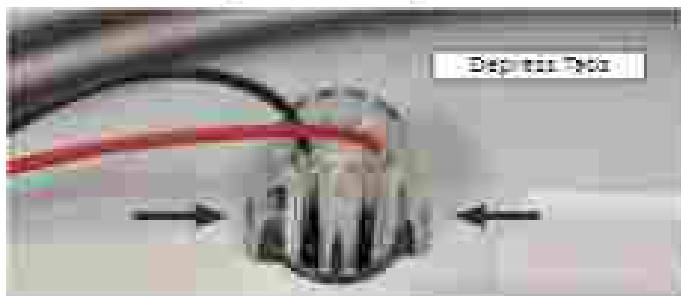

Figure 3 - Drum Light Tabs
6. Depress the tabs on both sides of the drum light to remove from bulkhead. Route the light and harness assembly through the hole (see Figure 3).